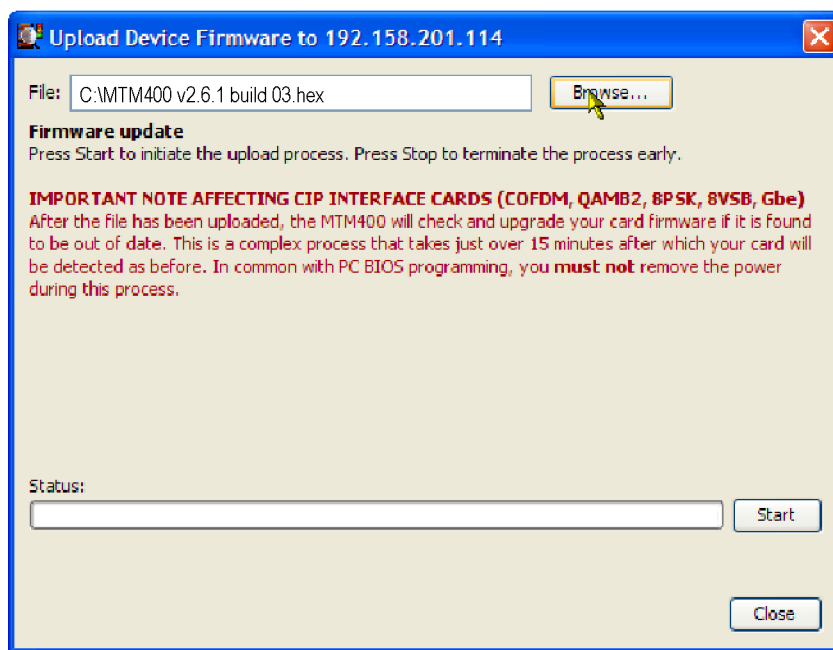

Figure 4: Upload Device Firmware dialog box - typical
5. In the Upload Device Firmware dialog box, enter the path and name of the firmware file or use the Browse button to locate and select the firmware file **MTM400 v3.0.060 build 702.hex**. (See Figure 4.)